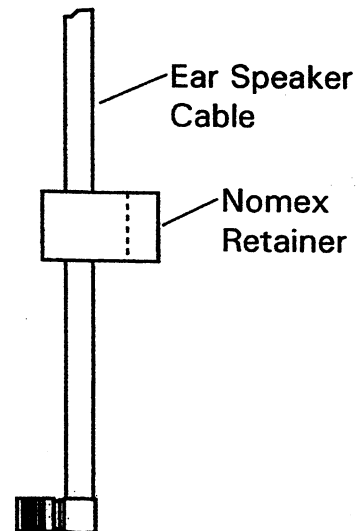

Figure 5. Insert Ear Speaker Cable through Nomex Retainer
18. Insert the ear speaker cable through the Nomex retainer. See Figure 5.